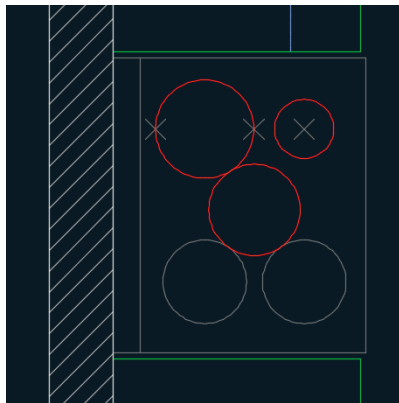

FIGURE 2.23 Drawing circles with various options
Type **2P** to indicate the two-point option, and press Enter. Hold down Shift, and right-click to open the Object Snap context menu. Select Node, and then click point B (shown in Figure 2.23).
7. Hold Shift again, right-click, and choose Node. Click point C (shown in Figure 2.23), and the CIRCLE command is completed.
10. Type **TAN**, press Enter to invoke the Tangent object snap, and click the circle on the lower right. You can type the first three letters of any object snap as an alternative to using the context menu. AutoCAD draws a circle precisely tangent to the three others (see Figure 2.23).